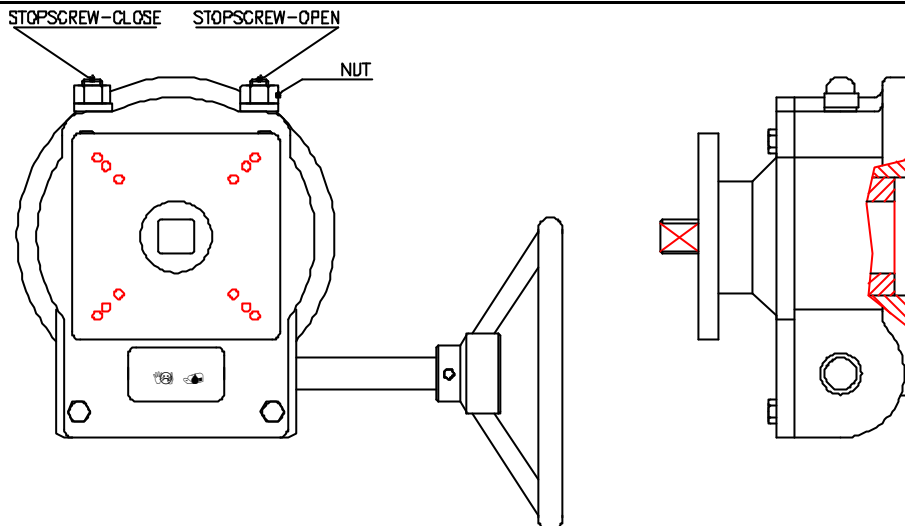

figure 4 : ILG/S gearbox stopscrew adjustment
5. Turn the handwheel counterclockwise to put the gearbox (and valve) in fully opened position. When the full open position can not be achieved, loosen the stopscrew-open of the gearbox (see figure 4) and check the travel stop adjustment of the actuator. Continue turning the handwheel until the valve is fully opened.
8. The actuator must also return (the valve) to its fully closed position. When the fully closed position can not be achieved, loosen the stopscrew-close of the gearbox (see figure 4) and check the travel stop adjustment of the actuator.